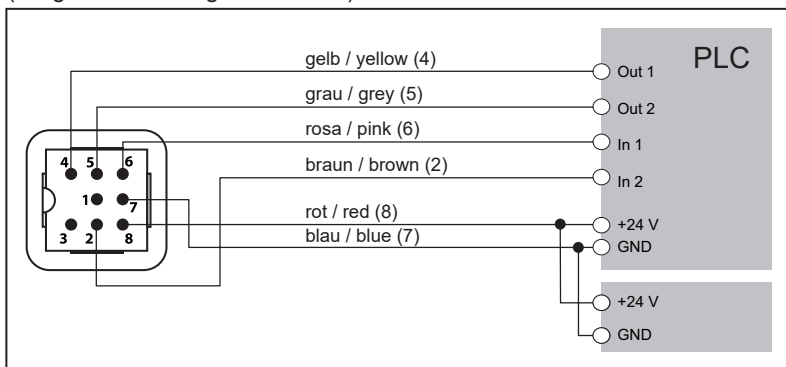

Fig. 10-4: Circuit diagram for direct connection to a PLC
- Connection to terminal „GND“ is imperative for direct connection to a PLC (Fig. 10-4)!